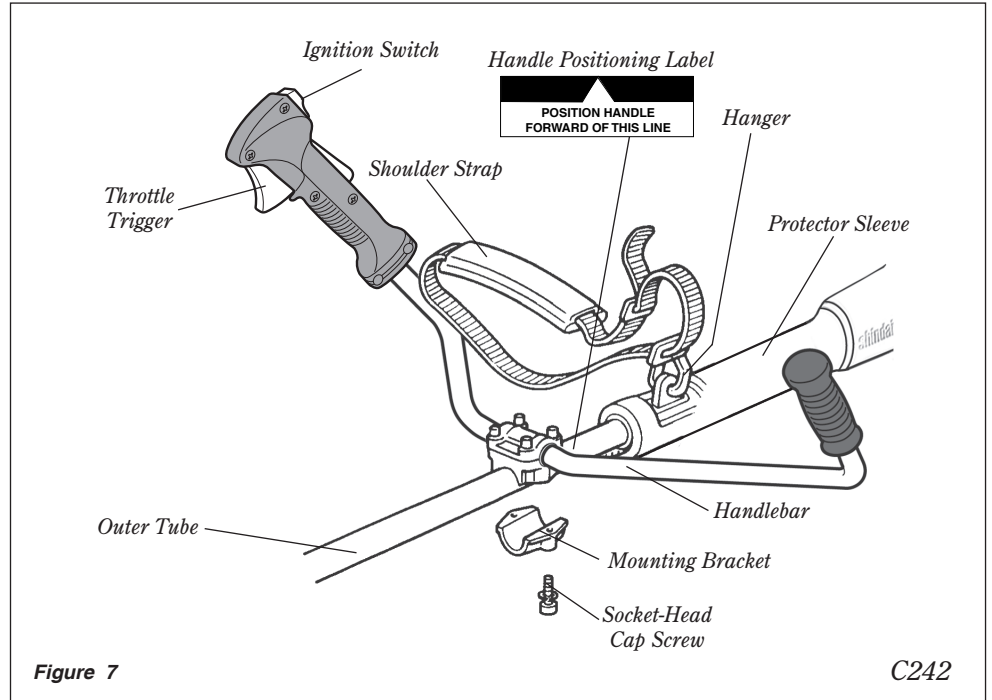

Figure 7
1. Use the 4 mm hex wrench to remove the lower cap retaining screws from the handlebar bracket. Remove the cap from the bracket. See Figure 7.
2. Position the handle on the outer tube forward of Handle Positioning Label as shown in Figure 7. Reassemble the lower cap to the handlebar bracket in the reverse order of disassembly.
5. Install the protector sleeve on the outer tube. See Figure 7.